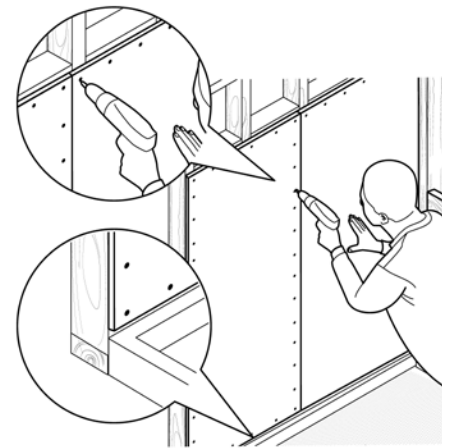

figure 8
4. Install wall substrate material, leaving a gap of approximately $\frac{1}{4}$ " between the top of the flange and the bottom of the substrate, as shown in the illustration above. (see figure 8)